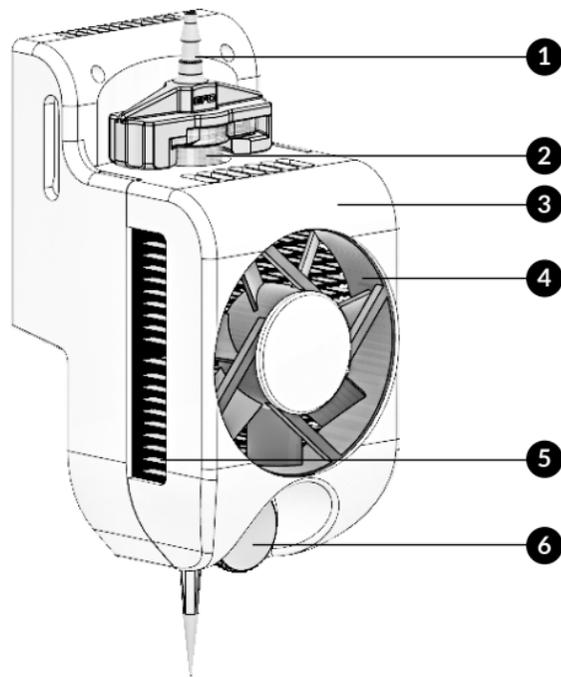

Figure 2: Temperature-controlled Printhead components.
- Check for locking screw (Figure 2).